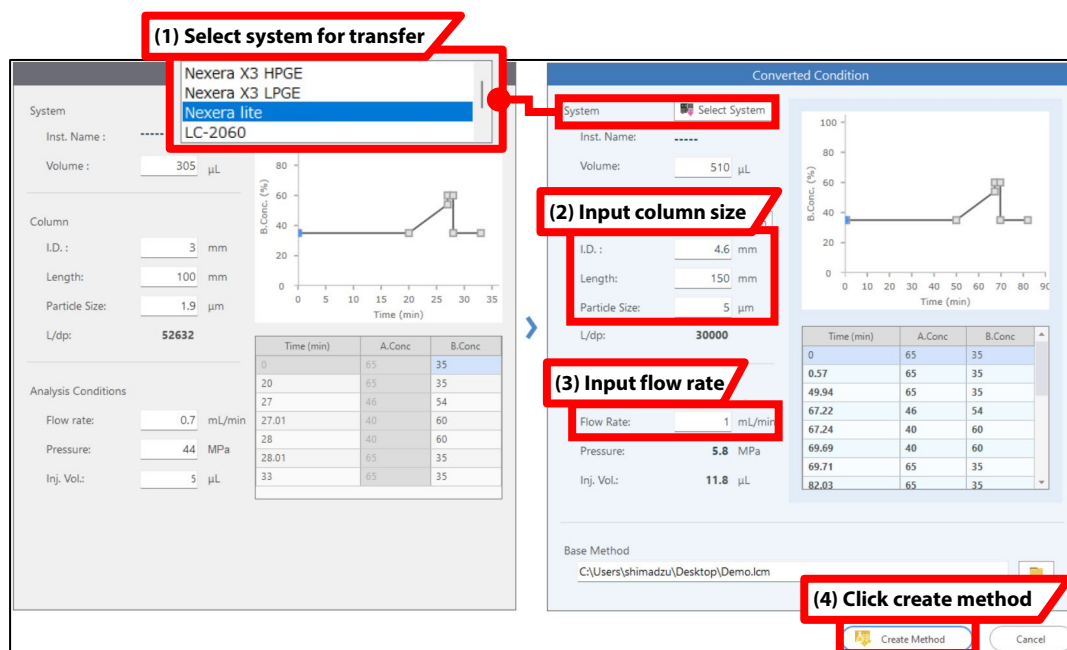

Fig. 6 Automatic Calculation of Parameters for Method Transfer by LabSolutions MD
Transferring analytical methods between systems with differing system volumes or column dimensions while maintaining consistent separation patterns necessitates appropriate adjustment of several LC parameters. Manual adjustment can be labor-intensive and prone to input errors during parameter calculation and system entry. LabSolutions MD addresses these challenges by automatically calculating the necessary LC parameters for method transfer and generating the corresponding method files, as illustrated in steps (1) to (4) of Fig. 6. For instance, a method optimized through automatic gradient optimization using Nexera X3 system with a 100 mm × 3.0 mm I.D., 1.9 µm column was successfully transferred to conventional HPLC conditions on Nexera lite system equipped with a 150 mm × 4.6 mm I.D., 5 µm column, as depicted in Fig. 6 (analytical conditions detailed in Table 2). By selecting the target system for method transfer (Fig. 6(1)), entering the column dimensions (Fig. 6(2)), and specifying the flow rate (Fig. 6(3)), LabSolutions MD automatically adjusts the parameters required for method transfer.